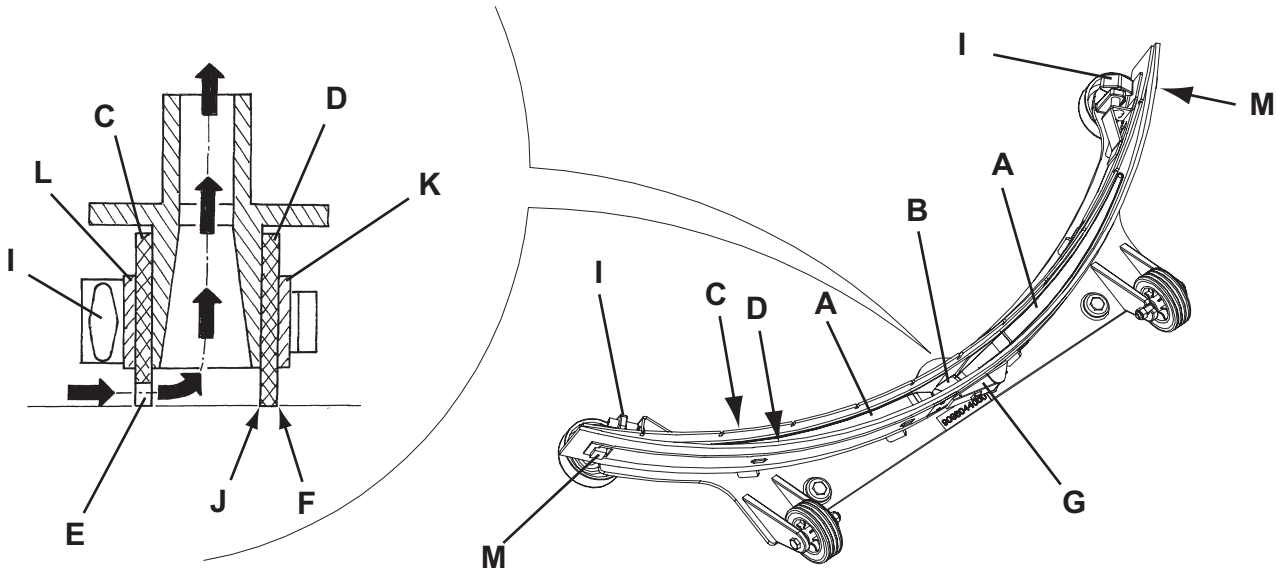

Figure 4
3. Lower the squeegee (25) with the lever (10).
4. Loosen the handwheels (26) and remove the squeegee (25).
5. Disconnect the vacuum hose (15) from the squeegee.
6. Wash and clean the squeegee (Fig. 4). In particular, clean the compartments (A, Fig. 4) and the vacuum hole (B) from dirt and debris. Check the front blade (C) and the rear blade (D) for integrity, cuts and tears; if necessary replace them (see the procedure in the following paragraph).
1. Clean the squeegee (Fig. 4) as shown in the previous paragraph.
2. Check that the edge (E, Fig. 4) of the front blade (C) and the edge (F) of the rear blade (D) lay down on the same level, along their length; if necessary adjust their height according to the following procedure:
- Remove the tie rod (G), disengage the fasteners (M) and adjust the rear blade (D), then engage the fastener and install the tie rod.
- Loosen the handwheels (I) and adjust the front blade (C), then tighten the handwheels.
3. Check the front blade (C) and rear blade (D) for integrity, cuts and tears; if necessary, replace them according to the following procedure. Check the front corner (J) of the rear blade for wear; if necessary, overturn the blade to replace the worn corner with an integral one. If the other corners are worn too, replace the blade according to the following procedure:
- Remove the tie rod (G), disengage the fasteners (M) and remove the retaining strip (K), then replace/overturn the rear blade (D). Assemble the blade in the reverse order of disassembly.
- Unscrew the handwheels (I) and remove the retaining strip (L), then replace the front blade (C). Assemble the blade in the reverse order of disassembly.